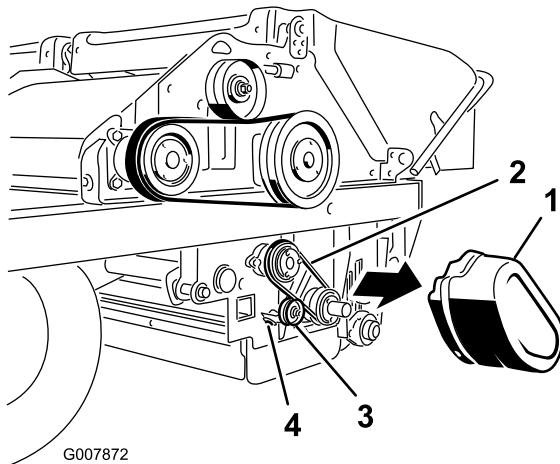

Figure 59
1. Remove the belt cover (Figure 59)
2. Loosen the nut on the idler pulley (Figure 59).
3. Push the idler pulley into the belt and tighten the idler pulley nut Figure 59).